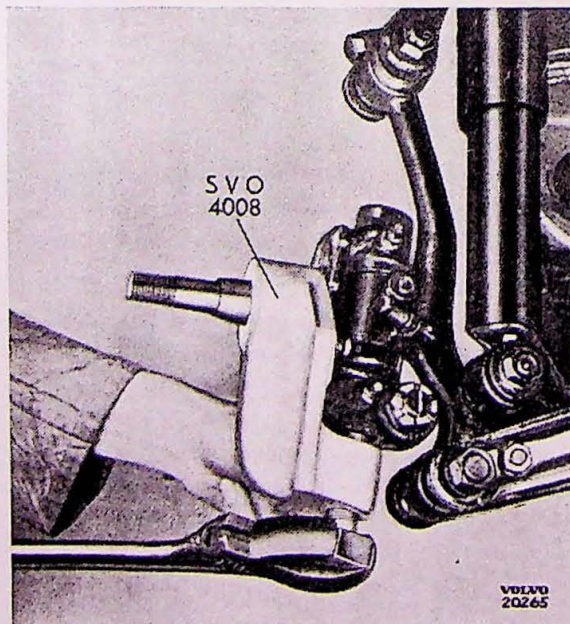

Fig. 10
6. Remove king pin stop key forwards by means of driver SVO 4115 and remove seal washer (38). Use tool SVO 4008 (fig. 10) and SVO 1808 for PV 444 C.